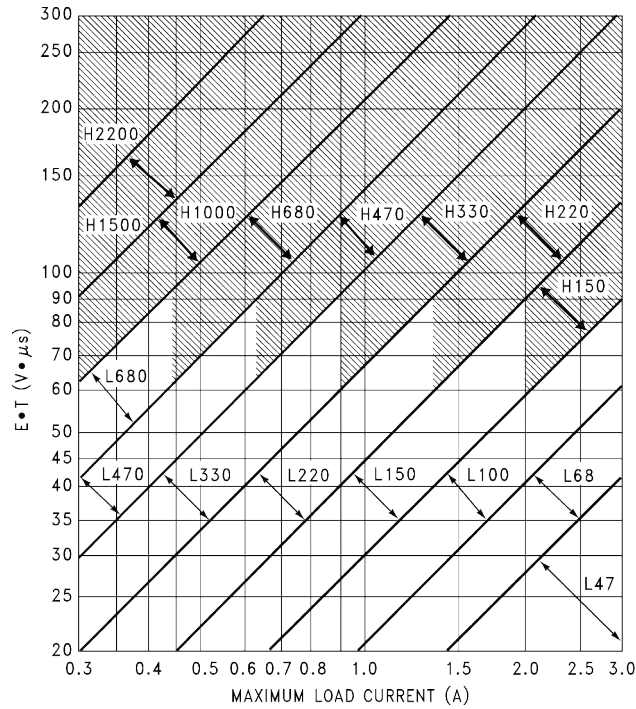

Fig 6 MXT2576-ADJ
B. Use the  $E \cdot T$  value from the previous formula and match it with the  $E \cdot T$  number on the vertical axis of the **Inductor Value Selection Guide** shown in *Figure 6*.
The inductor value selection guides in *Figure 3* through *Figure 6* were designed for buck regulator designs of the continuous inductor current type. When using inductor values shown in the inductor selection guide, the peak-to-peak inductor ripple current will be approximately 20% to 30% of the maximum DC current. With relatively heavy load currents, the circuit operates in the continuous mode (inductor current always flowing), but under light load conditions, the circuit will be forced to the discontinuous mode (inductor current falls to zero for a period of time). This discontinuous mode of operation is perfectly acceptable. For light loads (less than approximately 300 mA) it may be desirable to operate the regulator in the discontinuous mode, primarily because of the lower inductor values required for the discontinuous mode.